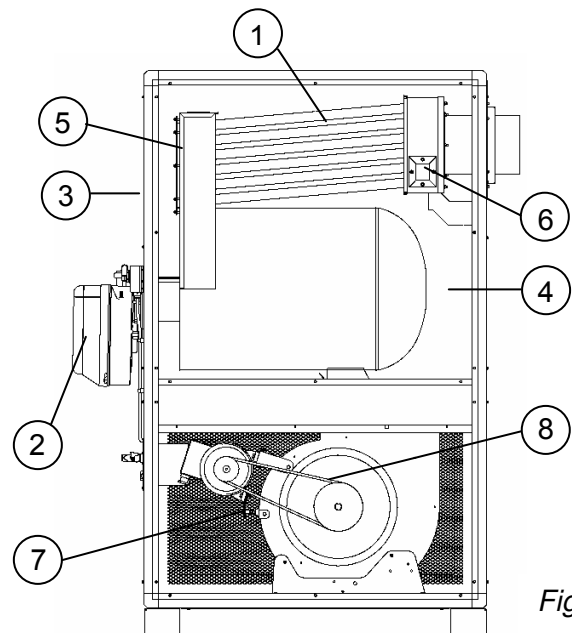
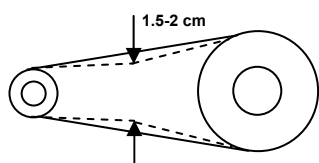

Fig.2
Fig.3
This activity must be performed minimum once a year or if needed, after the heating season is finished. Remove soot from the incineration chamber and the heat exchanger. The reason for production of the excessive quantity of soot may be the defective exhaust chimney, bad setting of the burner or bad fuel quality. The excessive quantity of soot may be recognised by the fact that the heater will switch off itself automatically. The access to the incineration chamber (Fig.2) and the exchanger (1) is possible after unscrewing the burner (2), removing the housing panels (3, 4,) and the panels closing the incineration chamber (5, 6).
Minimum once a year, or if needed, check the tension of the V-belt (8) (Fig.2). The belt must be pressed with one hand in the middle of its length (Fig.3), and its bending should amount to 1.5-2 cm. If the bending is significantly different from the one stated above, adjust it by means of a screw (7).